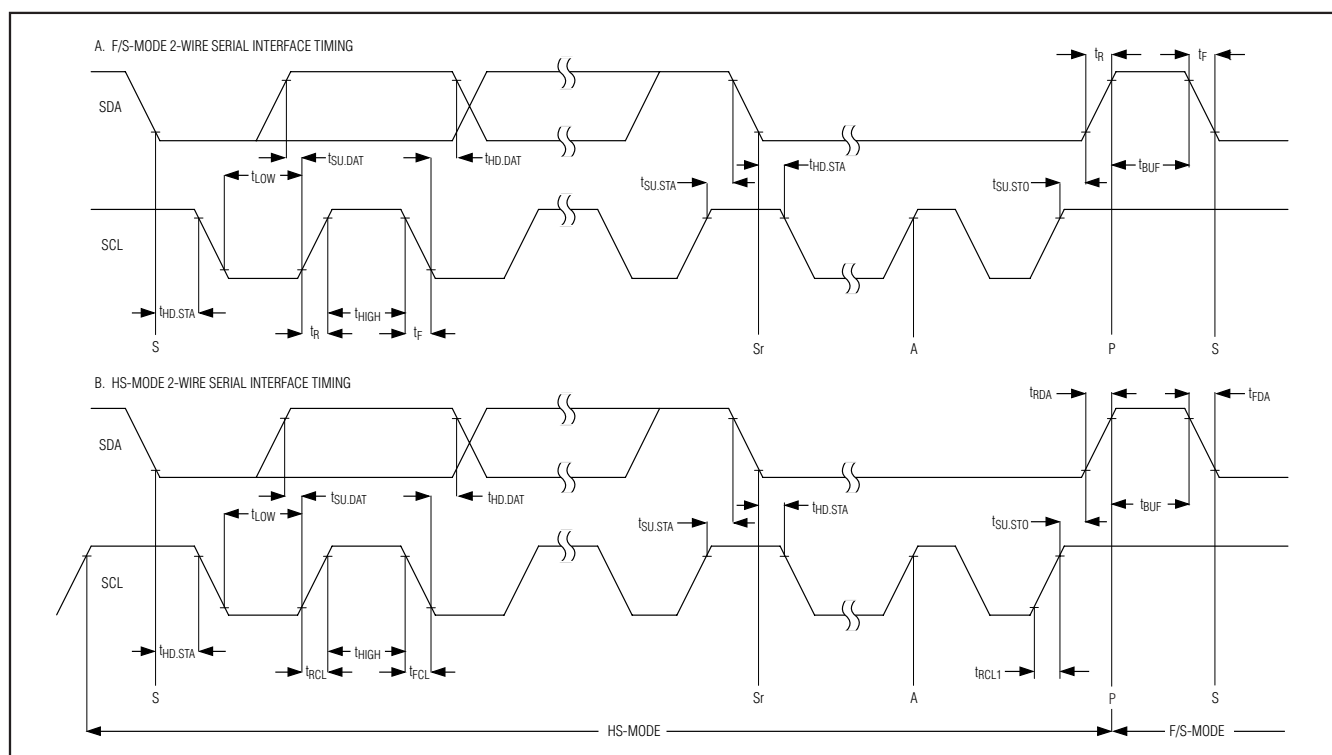

Figure 1. 2-Wire Serial-Interface Timing
### TIMING CHARACTERISTICS (Figure 1) (continued)
**Note 10:** A master device must provide a data hold time for SDA (referred to VIL of SCL) to bridge the undefined region of SCL's falling edge (see Figure 1).
up to 22.2ksps. The MAX11606–MAX11611 must operate in high-speed mode (HS mode) to achieve conversion rates up to 94.4ksps. Figure 1 shows the bus timing for the MAX11606–MAX11611's 2-wire interface.